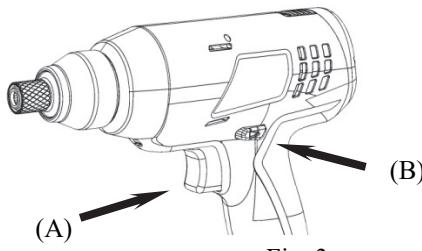

Fig. 3
To select forward rotation, RELEASE THE SWITCH (A) (see Fig.3), and push the forward/reverse lever (B) toward left side of the tool. ◀
To select reverse rotation, RELEASE THE SWITCH (A) (see Fig.3), and push the forward/reverse lever (B) toward right side of the tool. ▶